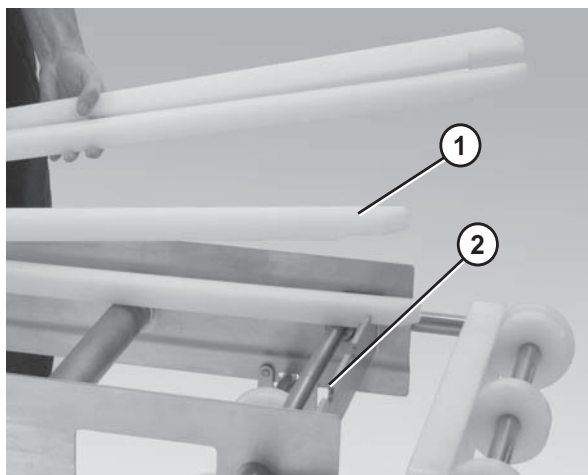

Figure 24
1. Position the wear strips (**Figure 24, item 1**) on the frame.
2. Make sure the wear strips are situated securely in the frame slots (**Figure 24, item 2**).